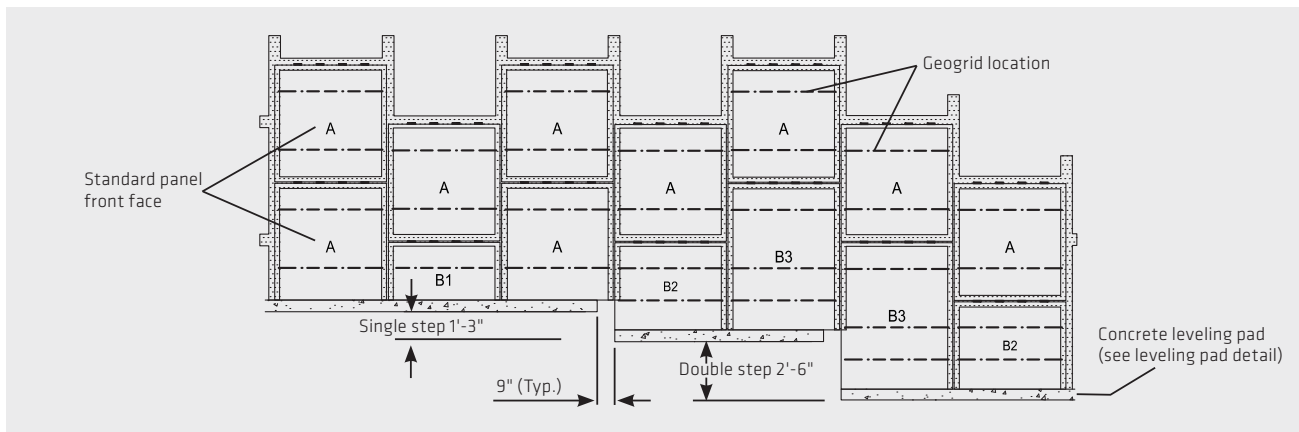

FIGURE 9: Example of leveling pad and typical panels configuration.
- ▶ Where steps in the leveling pad are shown on the approved construction drawings, the actual location of each step should be located and the bulkhead for the upper leveling pad step set back 9 in. (225 mm), nominal. (See Figure 9 and Image G.)
- ▶ The bottom course is made up of alternating tall panels (A or B3) and half panels (B1 or B2), with the tall A panels above the half panels as shown in Figure 9.